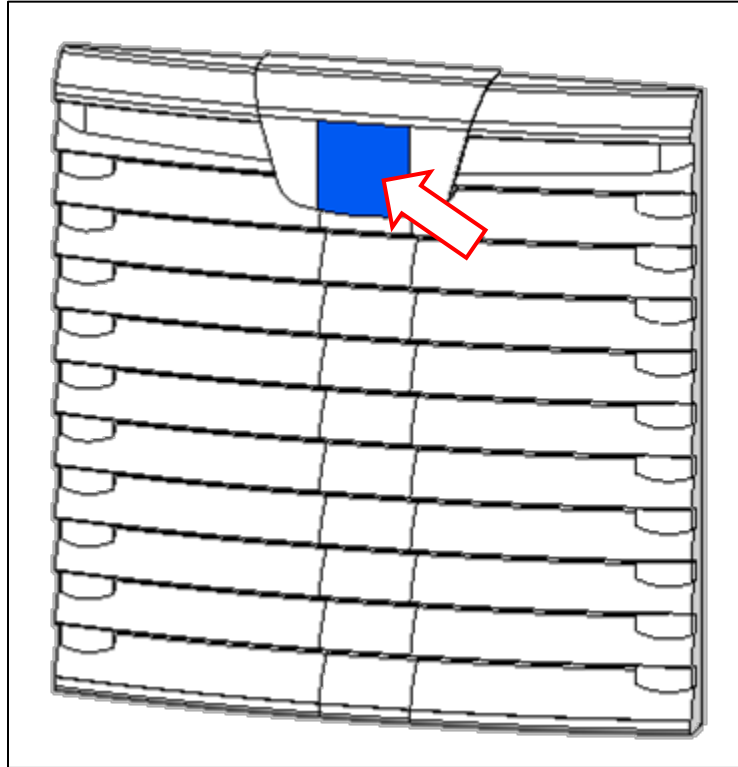

FIGURE 1.9-1: FAN/FILTER HOUSING
- 4) Open the filter housing(s) by pulling firmly on the bottom edge of the blue tab (Figure 1.9-1) on the outside of the housing.